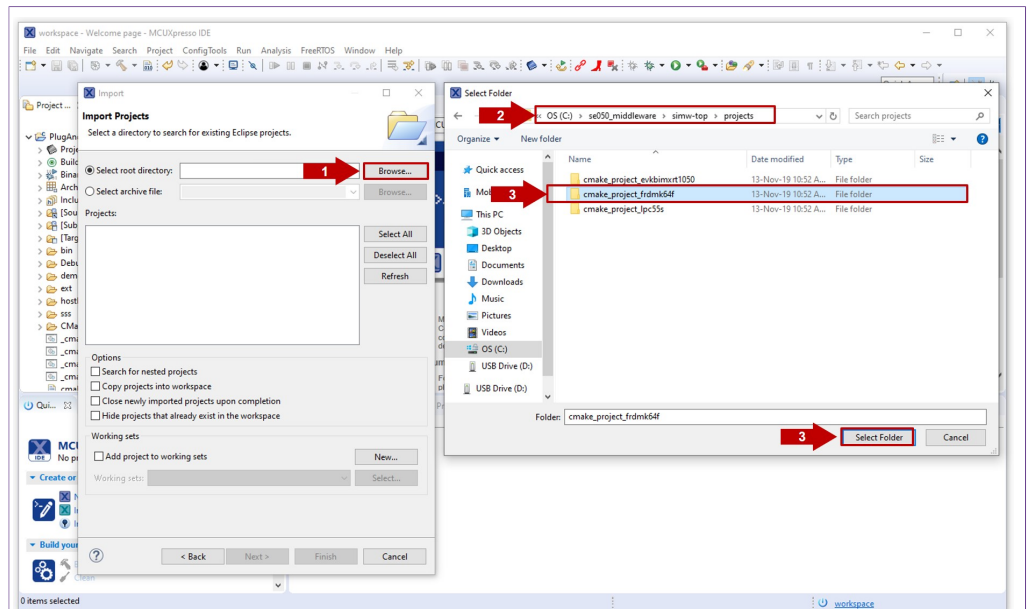

Figure 32. Select FRDM-K64F projects folder
- In the **Select root directory** option, browse to **C:\se050_middlewares\simw-top\projects** or browse the location of your FRDM-K64F projects directory. Choose the **cmake_projects_frdm64f** project and click **Select folder** as shown in Figure 32: